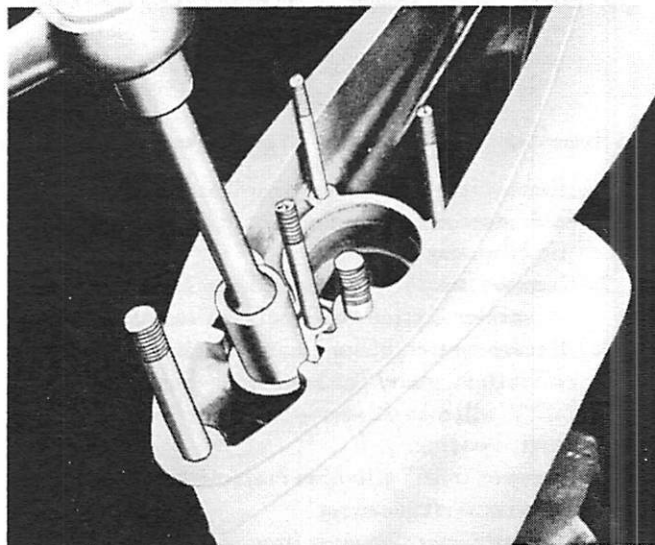

Figure 5. Removing Shift Shaft Bushing
4. Remove lower reverse locking cam from shift shaft bushing. Remove shift shaft bushing, using Shift Shaft Tool (91-31107) (Figure 5) and pull shift shaft out of gear housing. Shifting cam then will fall out of gear housing.